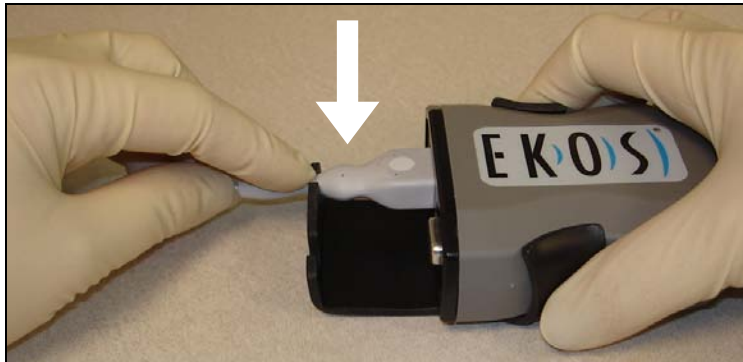

Figure 2. IDDC being secured into CIC Clip.
2. Following selection, preparation and placement of the EkoSonic Endovascular Device, connect the IDDC and MSD electrical connectors to the appropriate connectors at the distal end of the CIC. Make sure the connectors are properly seated in the CIC. Push the MSD and IDDC electrical connectors into the CIC Clip to secure the electrical connectors in the CIC (see **Figure 2**).